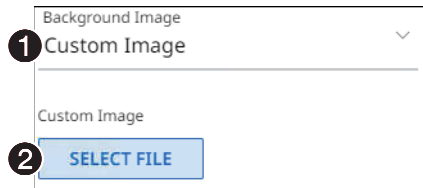

Figure 23. Upload a Custom Image, Steps 1 and 2
1. On the editable OSD Configuration pane (see **On Screen Display (OSD) pane** on page 28), click the **Background Image** drop-down list and select **Custom Image** (see figure 23, ①). If you have not already uploaded an image, the pane displays the **Select File** button (②).